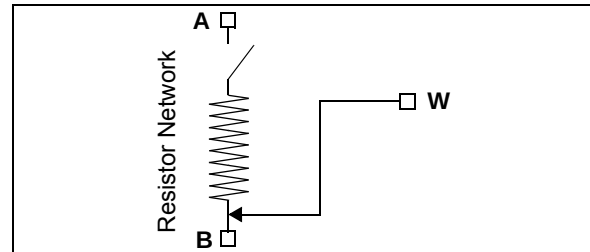

**FIGURE 5-11:** Resistor Network Shutdown State ( $R0HW = 0$ ).
- The P0W terminal is simultaneously connected to the P0B terminal (see Figure 5-11)